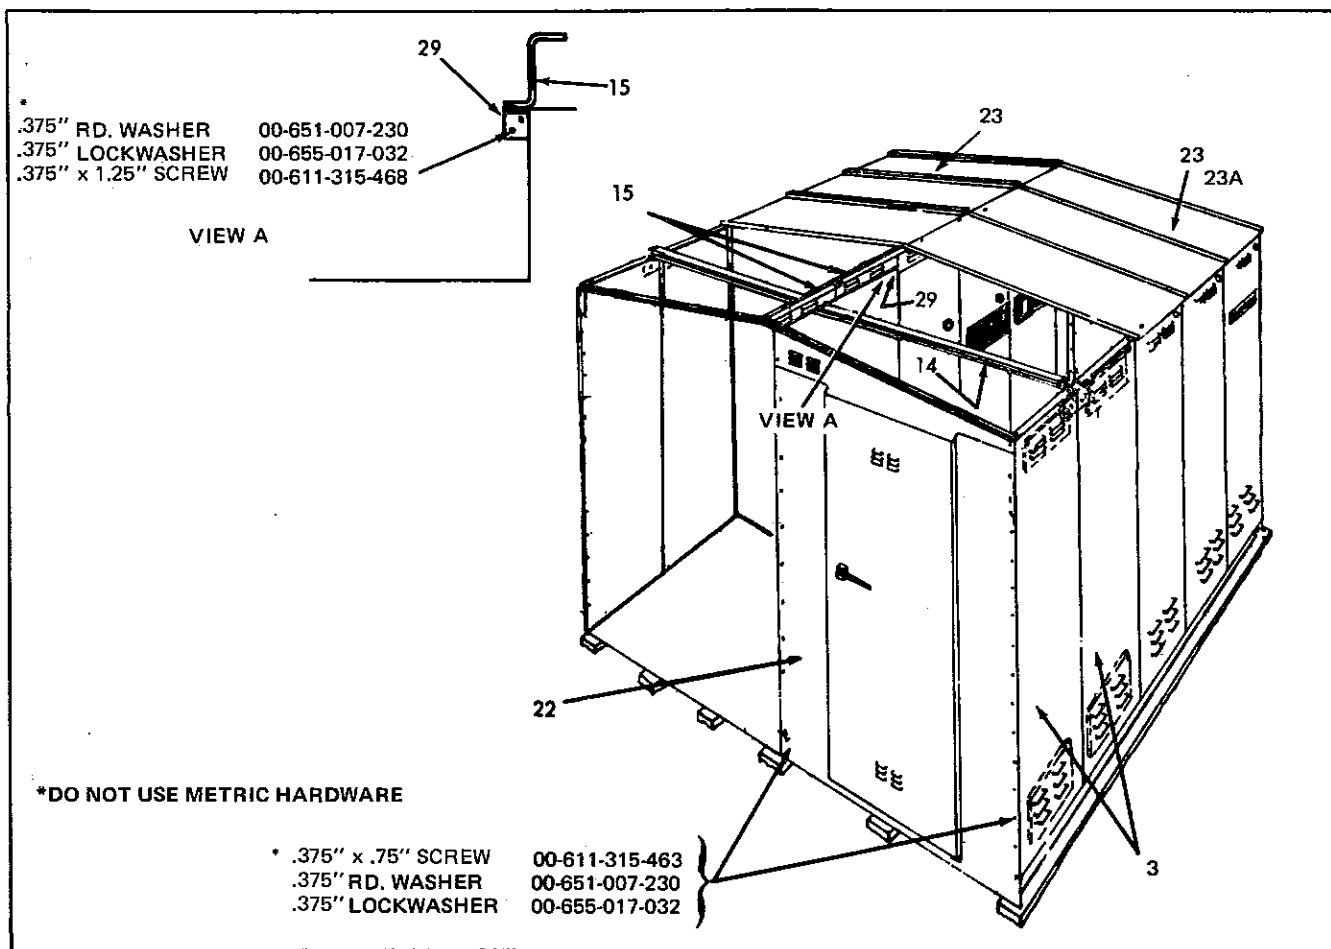

Figure 43. Door and Roof Support Installation (15 kV) - Single Aisle with Work Space
13. See Figure 43. Position and bolt the door frame assembly (22) into place. Apply .50-inch (12.7 mm) sealant tape so that one edge is on vertical centerline of mounting holes and other edge is toward point of weather exposure.